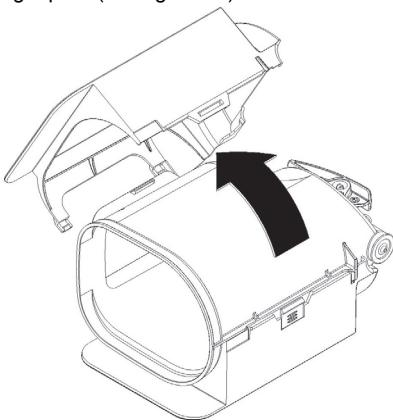

figure 10
- 2** Remove the left part of the recover and then the right part. (see figure 10).